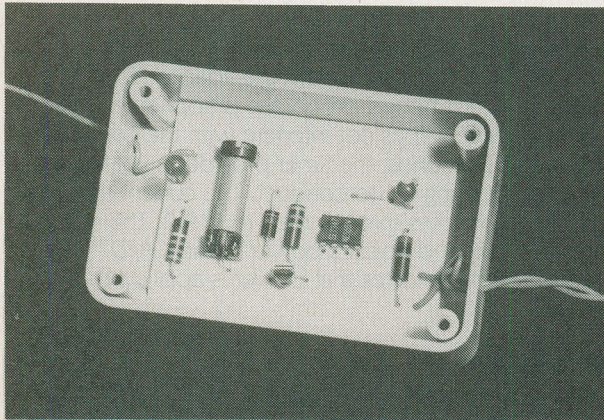

FIG. 3—USE THE RECOMMENDED CABINET, and the PC assembly just drops into place. Giving the wires a twist or two will provide strain relief.
-inch printed circuit board (Fig. 2) which can be tucked into a small plastic "pill box" (Fig. 3). The printed circuit template shown is the minimum size. If desired, you can expand the size of the board to fit larger cabinets, but use the same printed circuit template. For example, a sturdy cabinet was wanted for the unit shown in the photos, so the project was assembled in a Radio Shack "Experimenter's Cabinet," (catalog No. 270-230). (See Fig. 4.) The outer dimensions of the printed circuit board were increased to 1 $\frac{7}{8}$ inch by 2 $\frac{7}{16}$ -inches so the board could drop directly into the cabinet without the need for any mounting screws. Locate the hole for the LED in the top panel.